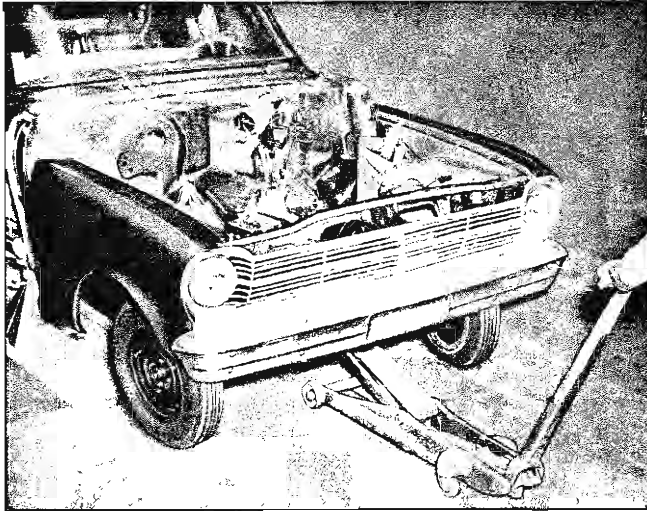
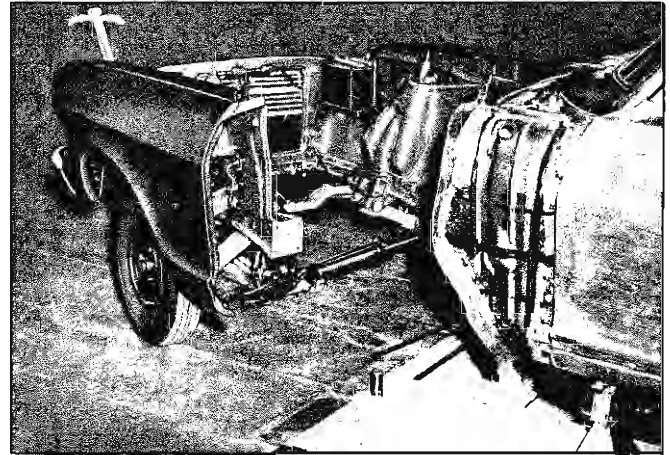

Fig. 41—Transporting Front End Assembly
Fig. 42—Removing Front End Assembly from Vehicle
The Chevy II front end body design allows for removal of the entire front end of the vehicle without disassembly of front suspension or sheet metal. Figure 41 illustrates the ease with which one man may remove and transport the front end assembly, using only a floor jack placed under the crossmember and the vehicle front wheels. Figure 42 illustrates the assembly in process of removal with jack stand in position under rocker panel. Proceed with removal as follows:
3. Raise car from floor and install jack stands as shown in Figure 42.
13. Remove front end from vehicle as shown in Figure 41.